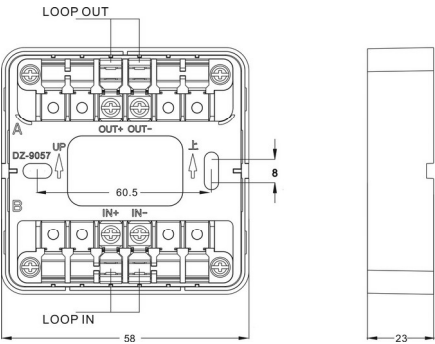

Fig. 3 Base and wiring diagram
- 1.Use two M4 screws to fix the isolator base via the two elliptic screw holes shown in Fig.3, and then insert the main body of the isolator into the isolator base.
- 2.Wires from the base of the center hole penetration, and connected to the corresponding terminals. Figure 3 shows a schematic base terminal.